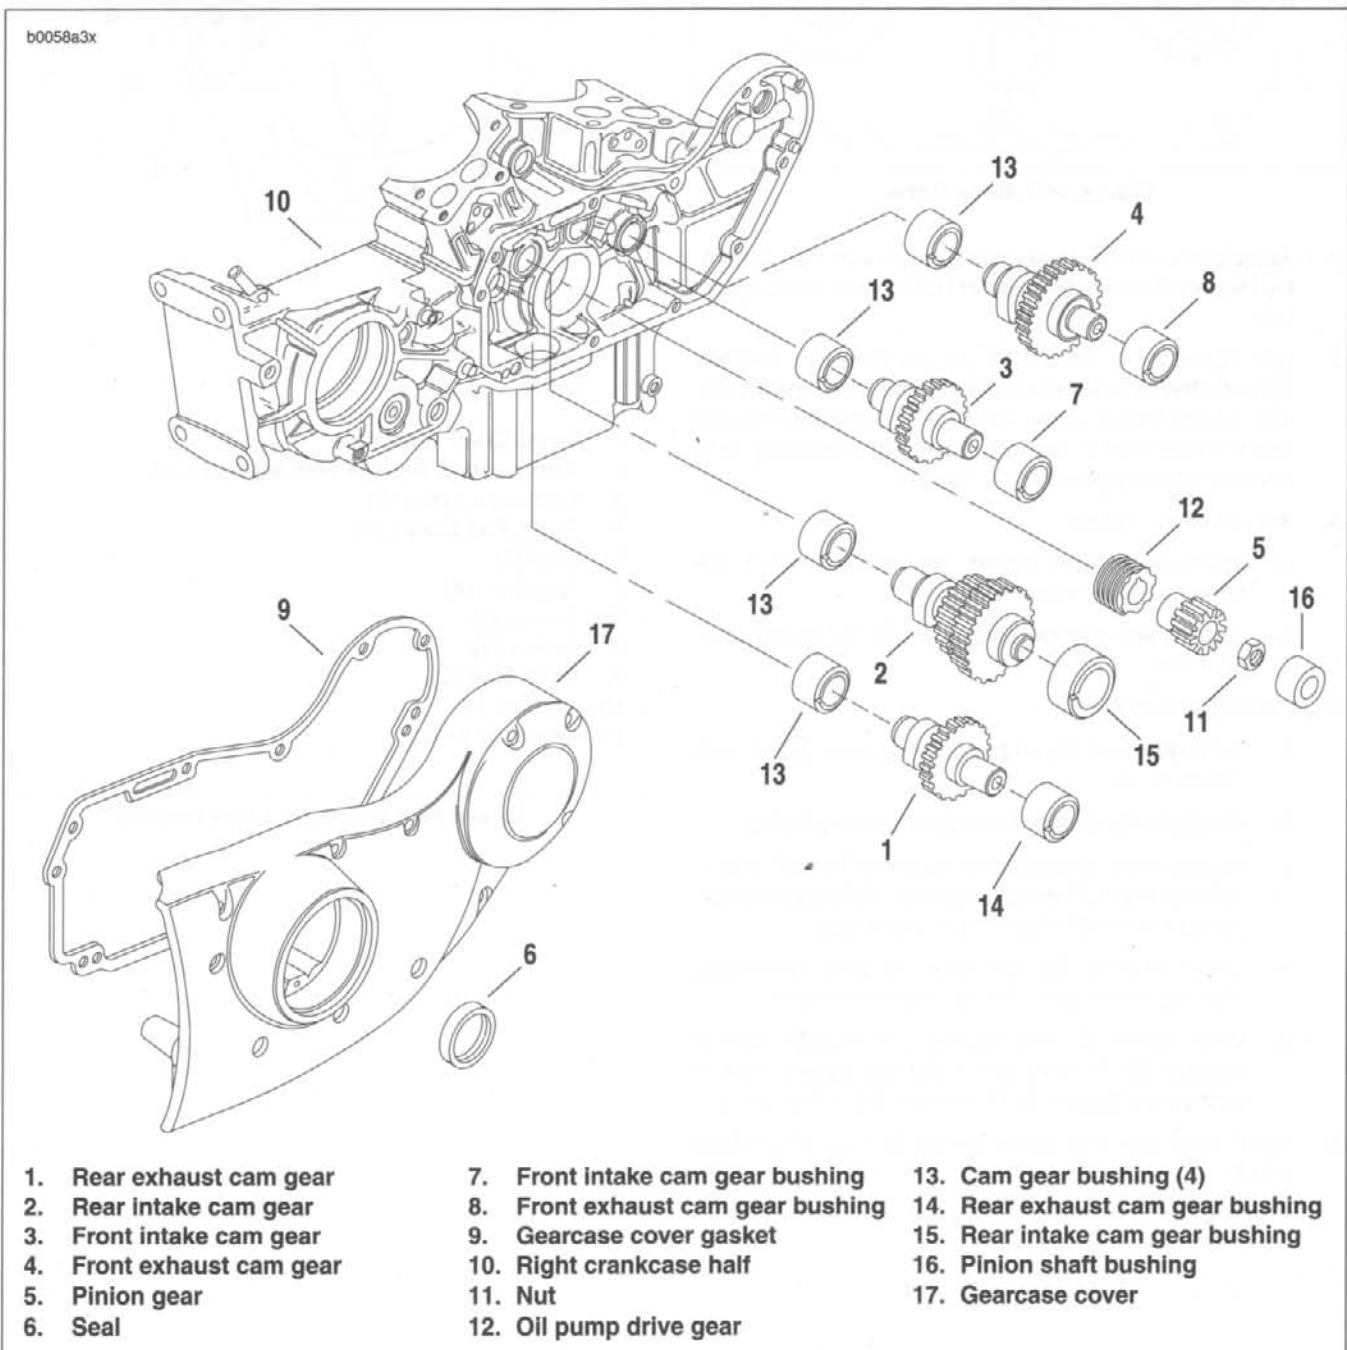

Figure 3-65. Gearcase and Valve Train Components
1. See Figure 3-65. Thoroughly clean area around gearcase cover (17) and tappets. Blow loose dirt from crankcase with compressed air.
- See Figure 3-65. Bushings (7, 8, 13, 14, 15 and 16) are press fit in gearcase cover (17) and crankcase. Inspect each bushing against its corresponding cam gear shaft or pinion gear shaft. See Table 3-11.
- See Figure 3-65. Using an arbor press, install each bushing (7, 8 and 14) in its gearcase cover (17) bore so that bushing shoulder contacts cover boss. Orient each bushing so the oiling slot is at the 9 o'clock position within the gearcase cover bore.
- See Figure 3-65. Rear intake cam gear bushing (15) must be installed in its gearcase cover (17) bore using an arbor press. You will need to orient the bushing in a specific position of rotation within the cover bore, and will need to drill a lubrication hole in the bushing, according to the following procedures.
1. See Figure 3-65. Using an arbor press, install pinion shaft bushing (16) in its gearcase cover (17) so that bushing is flush with cover boss. There is no need to orient this particular bushing in any specific position of rotation within the gearcase cover bore.
1. See Figure 3-65. Bushings (7, 8 and 14) to be reamed must be installed in gearcase cover (17) as described in BUSHING INSTALLATION on page 3-47. Attach gearcase cover to right crankcase half (10), which has been disassembled from left crankcase half, securing with a minimum of three mounting screws.